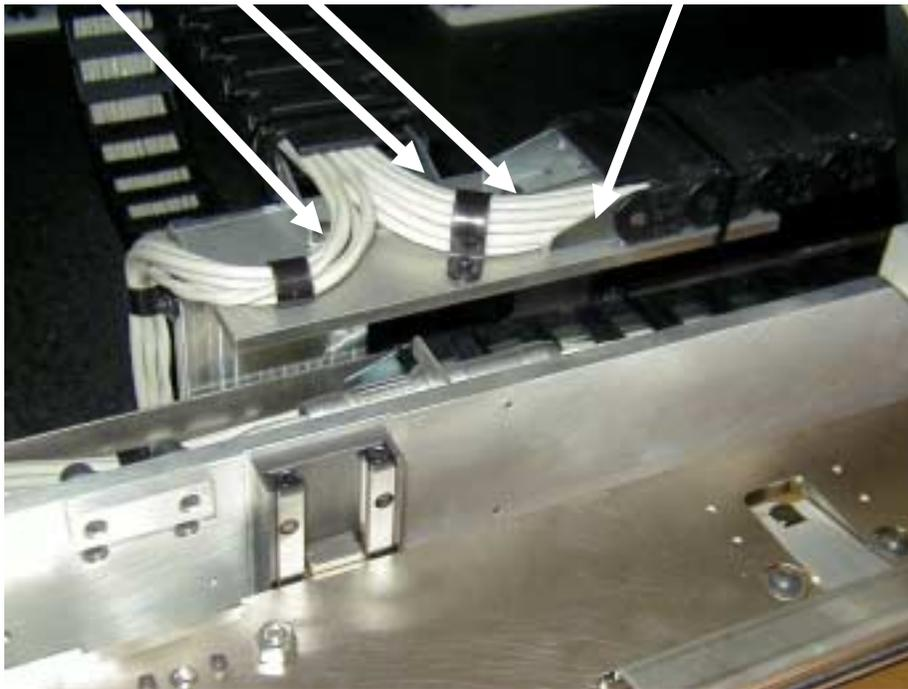

Figure 7.
13. Mount both E-Chains to the new E-Chain Support, using the same 4 screws (see Figure 7).